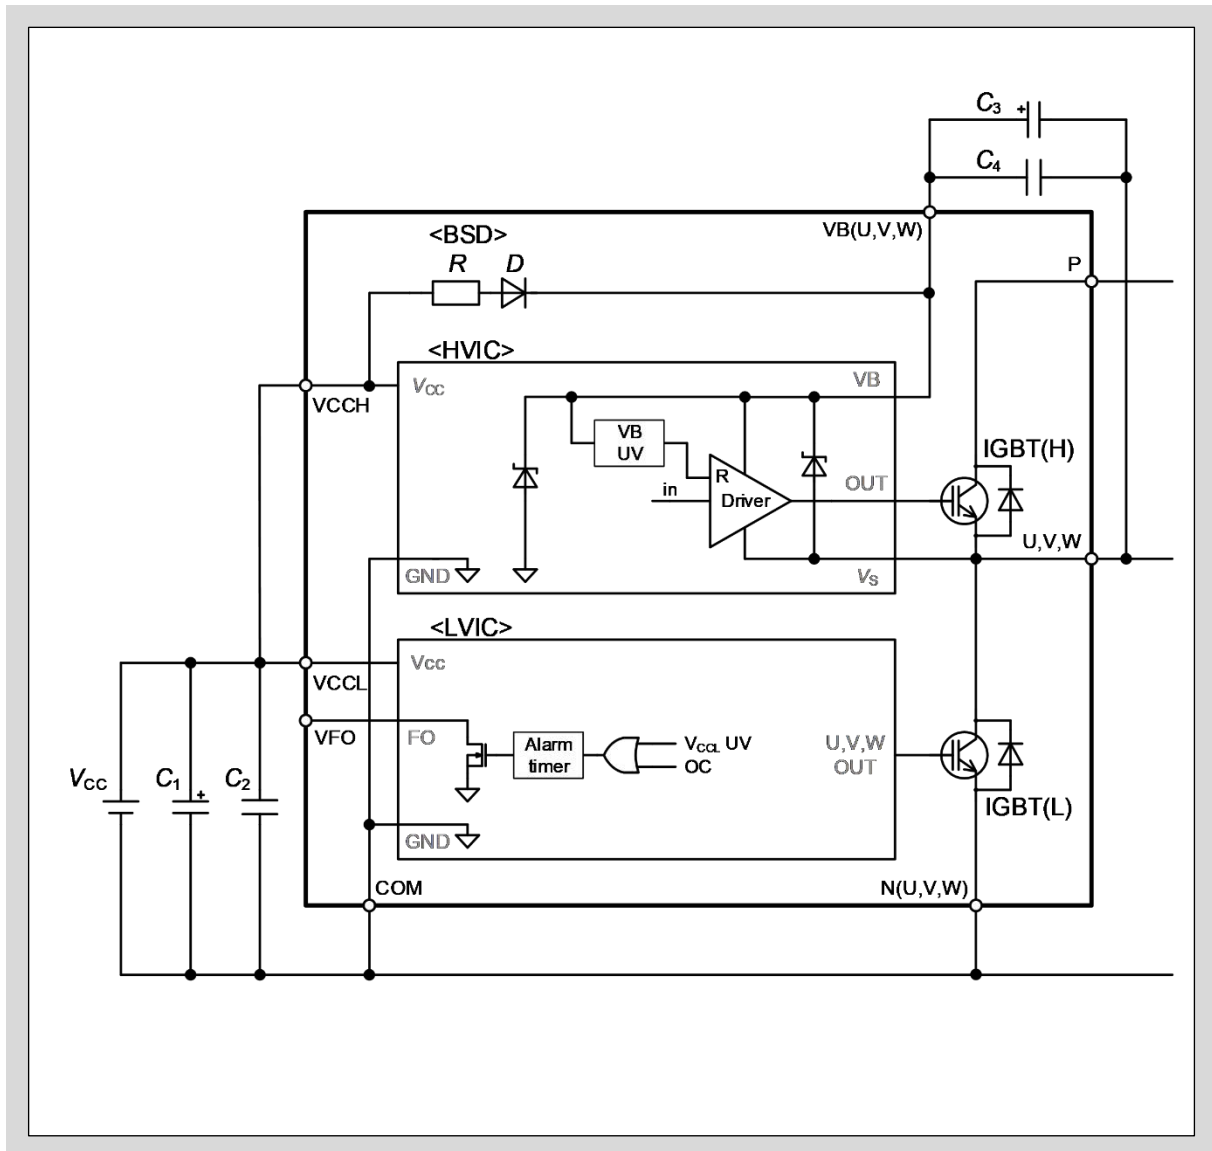

Fig.3-4 UV protection circuit of $V_B(U, V, W)$
- Fig.3-4 shows the UV protection circuit of high-side power supply VB(U, V, W).
- As shown in Fig.3-4, diodes are electrically connected to the VB(U,V,W)-(U,V,W) and VB(U,V,W)-COM terminals. These diodes protect the product from input surge voltage. Do not use these diodes for voltage clamp purpose otherwise the product might be damaged.